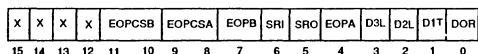

Figure 26. DMA Master Control Register
**DMA Master Control Register.** This 16-bit register (Figure 26) specifies the general configuration of the four on-chip DMA channels: the linking of the DMA channels, the software ready enables, and EOP enable.